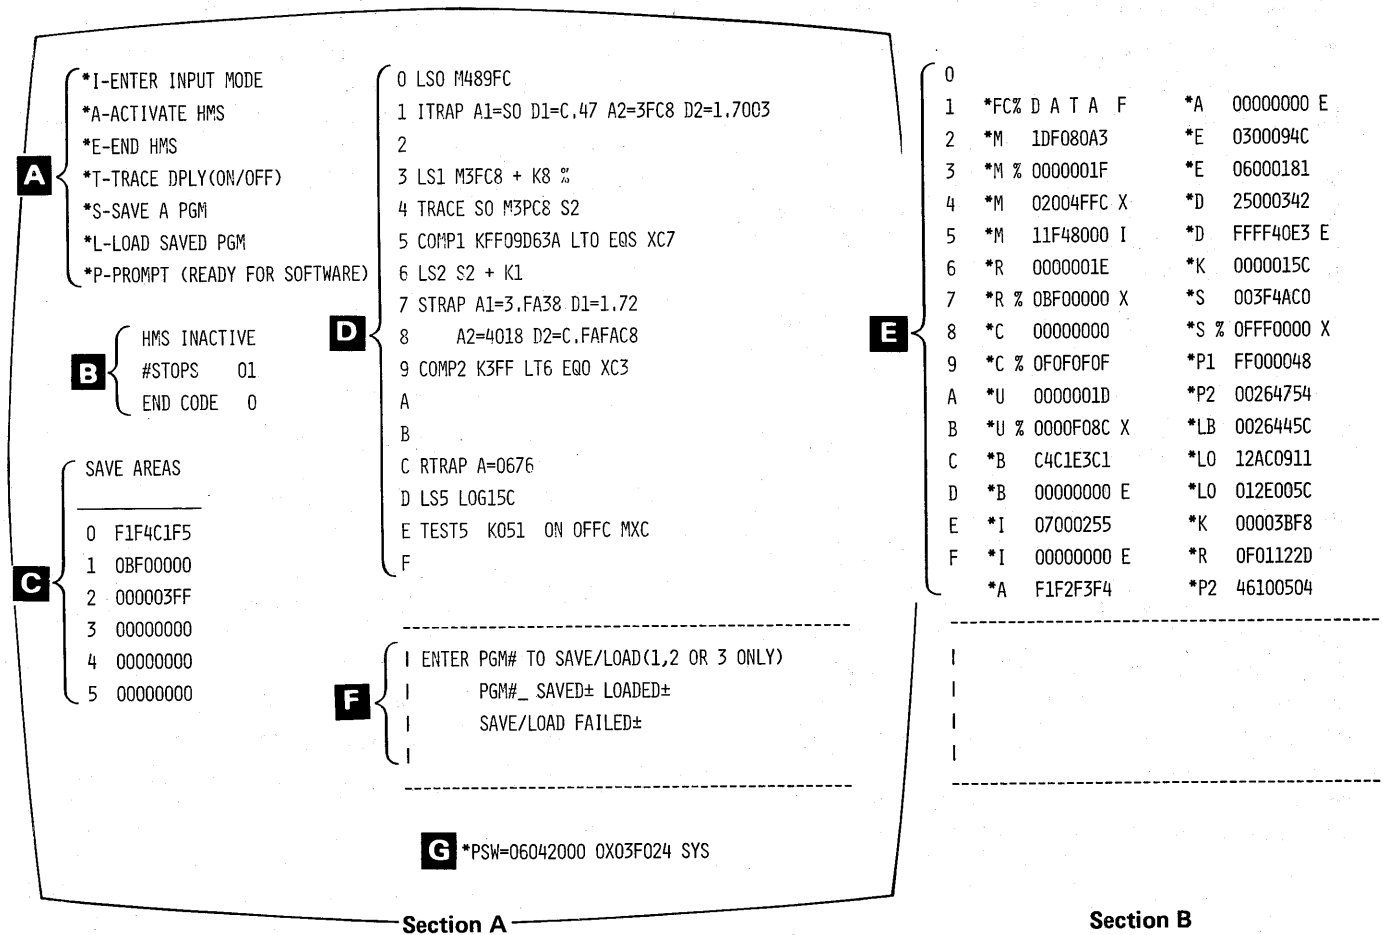
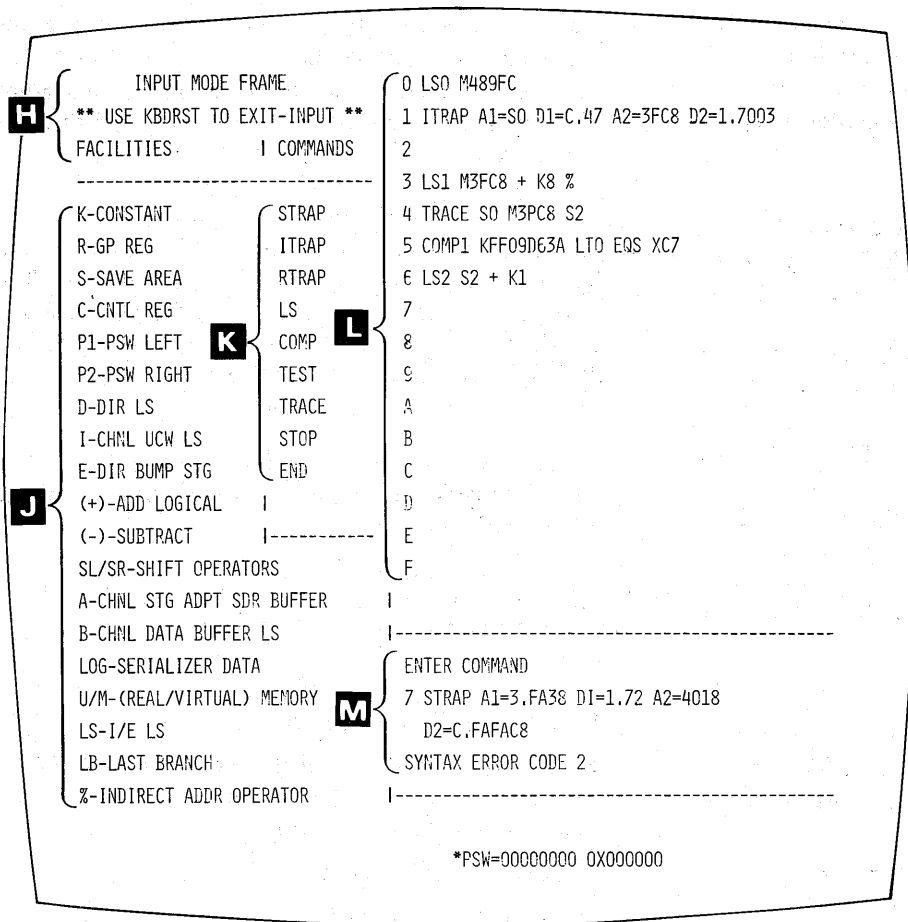

Figure 6-1. HMS Working Frame (Section A showing HMS active, Section B showing HMS inactive and trace area displayed)
Figure 6-2. HMS Input Mode Frame
The Hierarchical Monitoring System (HMS) is a service aid that gathers trace data by monitoring various system operations. This data is used by service personnel in diagnosing software/microcode and hardware/microcode problems. The monitoring and the gathering of trace data are controlled by an HMS program that is generated on the HMS frame (Figure 6-1) by the user. The HMS program traps data and uses it to compare, calculate, store, and display the results.
The HMS frame consists of two parts: the working frame (Figure 6-1), which is initially displayed, and the input mode frame (Figure 6-2), which is selected from the working frame. The frame elements in Figures 6-1 and 6-2 are keyed to descriptions that follow the figures.
- A program display area **D**, which displays the HMS program when HMS is active (see Figure 6-1, Section A). A trace display area **E**, which displays the contents of the trace buffer when HMS is inactive (see Figure 6-1, Section B).